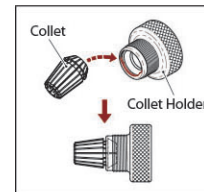

Fig. 2-1
2. Put the collet into collet holder by 45° angle. (Fig. 2-1)